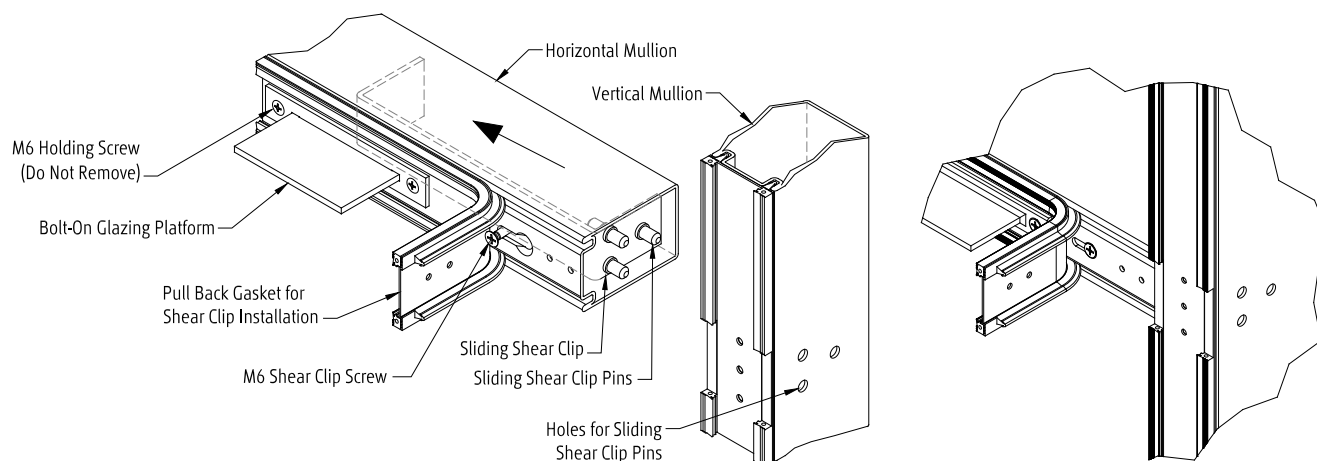

Figure 9 - Sliding Shear Clip Installation
- Secure upper mullion to lower mullion using fasteners as shown in project drawings through pre-drilled holes in mullion and pre-tapped holes in splice plate (Figure 9).